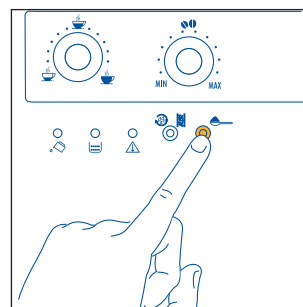

Fig.18
1. Press the ☞ button to select the ground coffee function (Fig. 18). The light inside the button switches on to indicate that the function has been selected and the coffee grinder has been disabled.